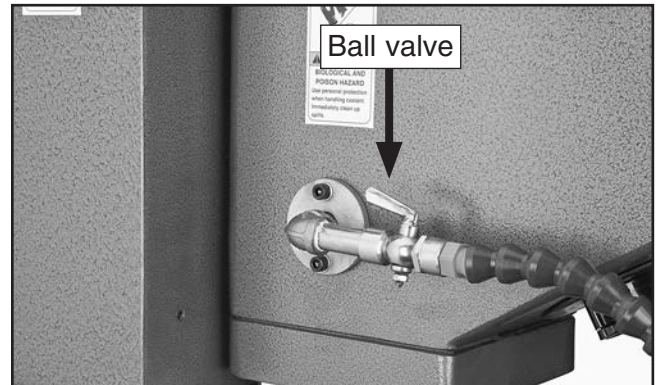

Figure 13. Ball valve of nozzle assembly.
4. Adjust the ball valve in the coolant nozzle assembly for the proper coolant flow (see **Figure 13**).